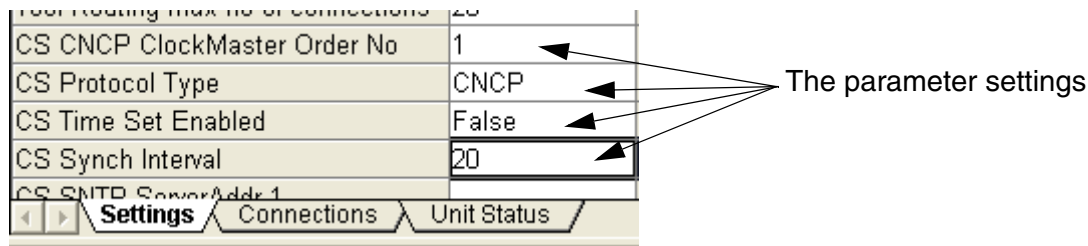

Figure 87. The parameter settings under the Settings tab in the hardware editor.
- 3. Set the following (four) parameters according to Figure 87. The setting *CS Time Set Enabled* can be set to `True` if local time source is used.